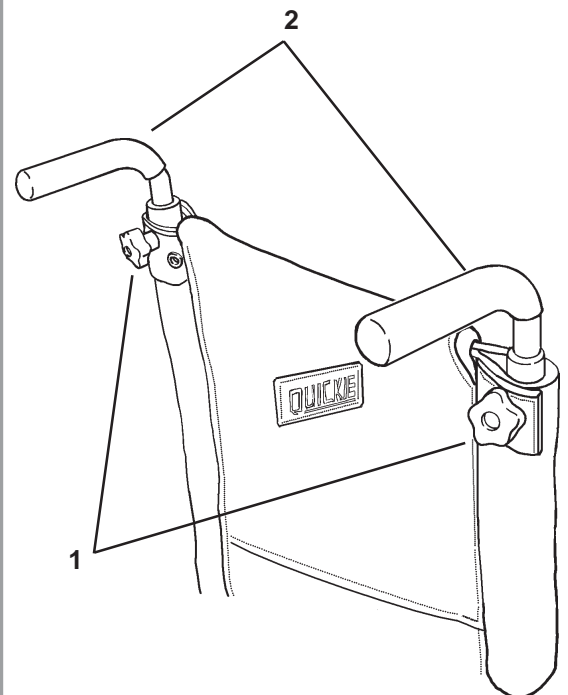

Fig. 32
To adjust the height of stroller handles (Fig. 32) loosen the two locking knobs (1), move the handles (2) to the desired height and tighten the knobs.